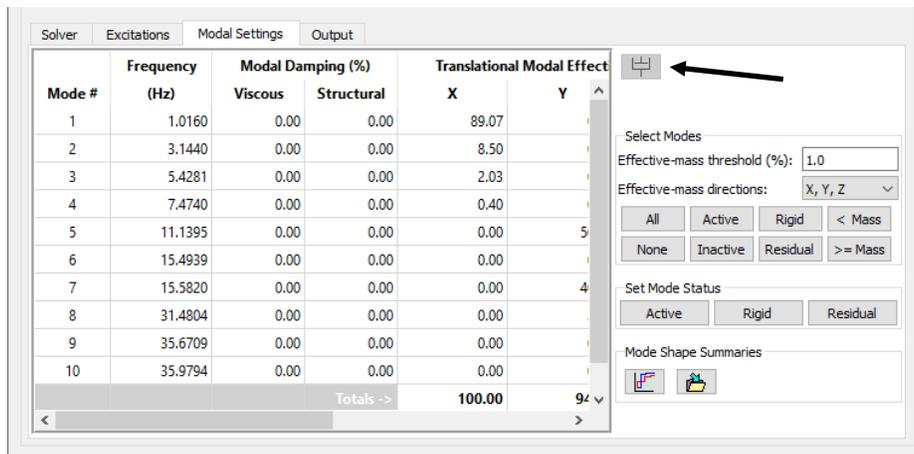
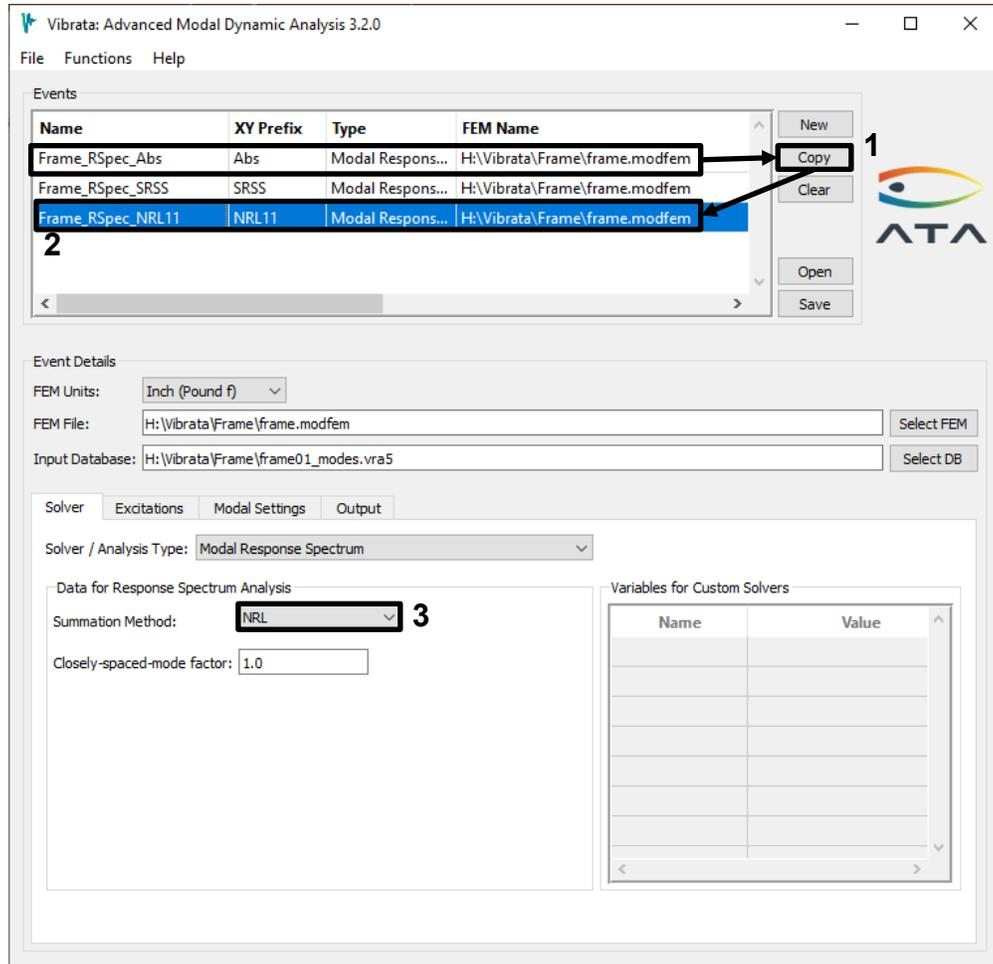

Figure 4-80. Damping is not needed and the damping dialog button is disabled.
Figure 4-83. Copy again to create a third event using NRL summation.
- No damping is needed for response spectrum analysis, as the damping level is already accounted for in the response spectrum function. In fact, you cannot even open the damping dialog (Figure 4-80).
- Copy the first event again. Change the summation method to *NRL* and set the Closely-spaced-mode factor to 1.1 (Figure 4-83). From Figure 4-80 you can see that the frequencies of modes 6 and 7 and modes 9 and 10 are within 10% of each other, so they will be considered closely spaced. Solve the event.
treat closely spaced modes as in phase, NRL also treats the maximum-response mode as in phase with all of the closely spaced modes. Looking at the effective masses in Figure 4-80, this will clearly be mode 1. It is not “close” to any other mode, so it will not be part of the in-phase summation for NRC, but it will be for NRL.